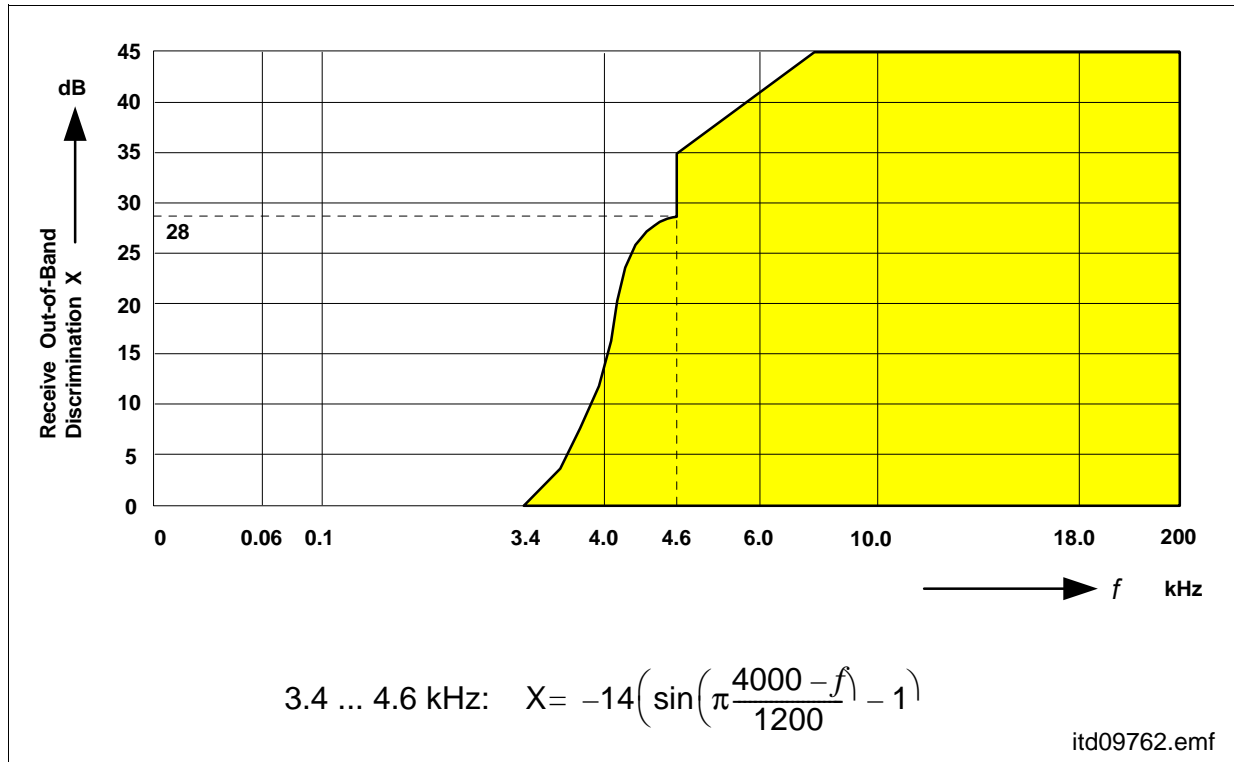

Figure 86 Out-of-Band Signals at Analog Output (Receive)
**Out-of-Band Signals at Analog Output (Receive) (see Figure 86)**